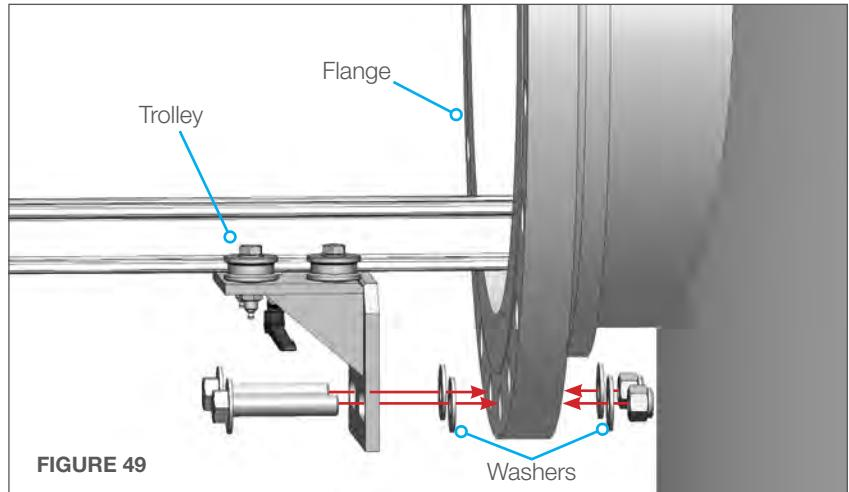

FIGURE 49
1. Fasten the Trolley at the six O'Clock position on the flange of the Manway. Use two 3/4" x 4" Hex Bolts, four 3/4" flat washers and two 3/4" Lock Nuts. Install one set of washers on either side of the flange as shown in **(Figure 49)**.